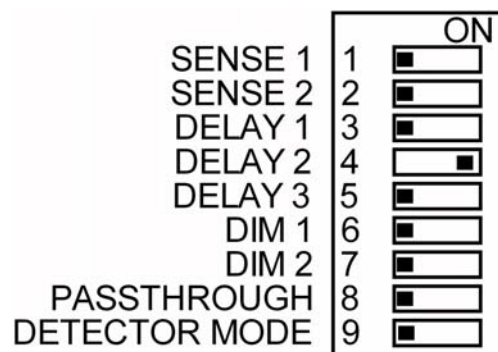

Figure 8. DIP Switch Settings for Test Procedure
12. Set DIP Switch S1 to minimum sensitivity, 1 minute delay time, and OFF output level. See Figure 8.